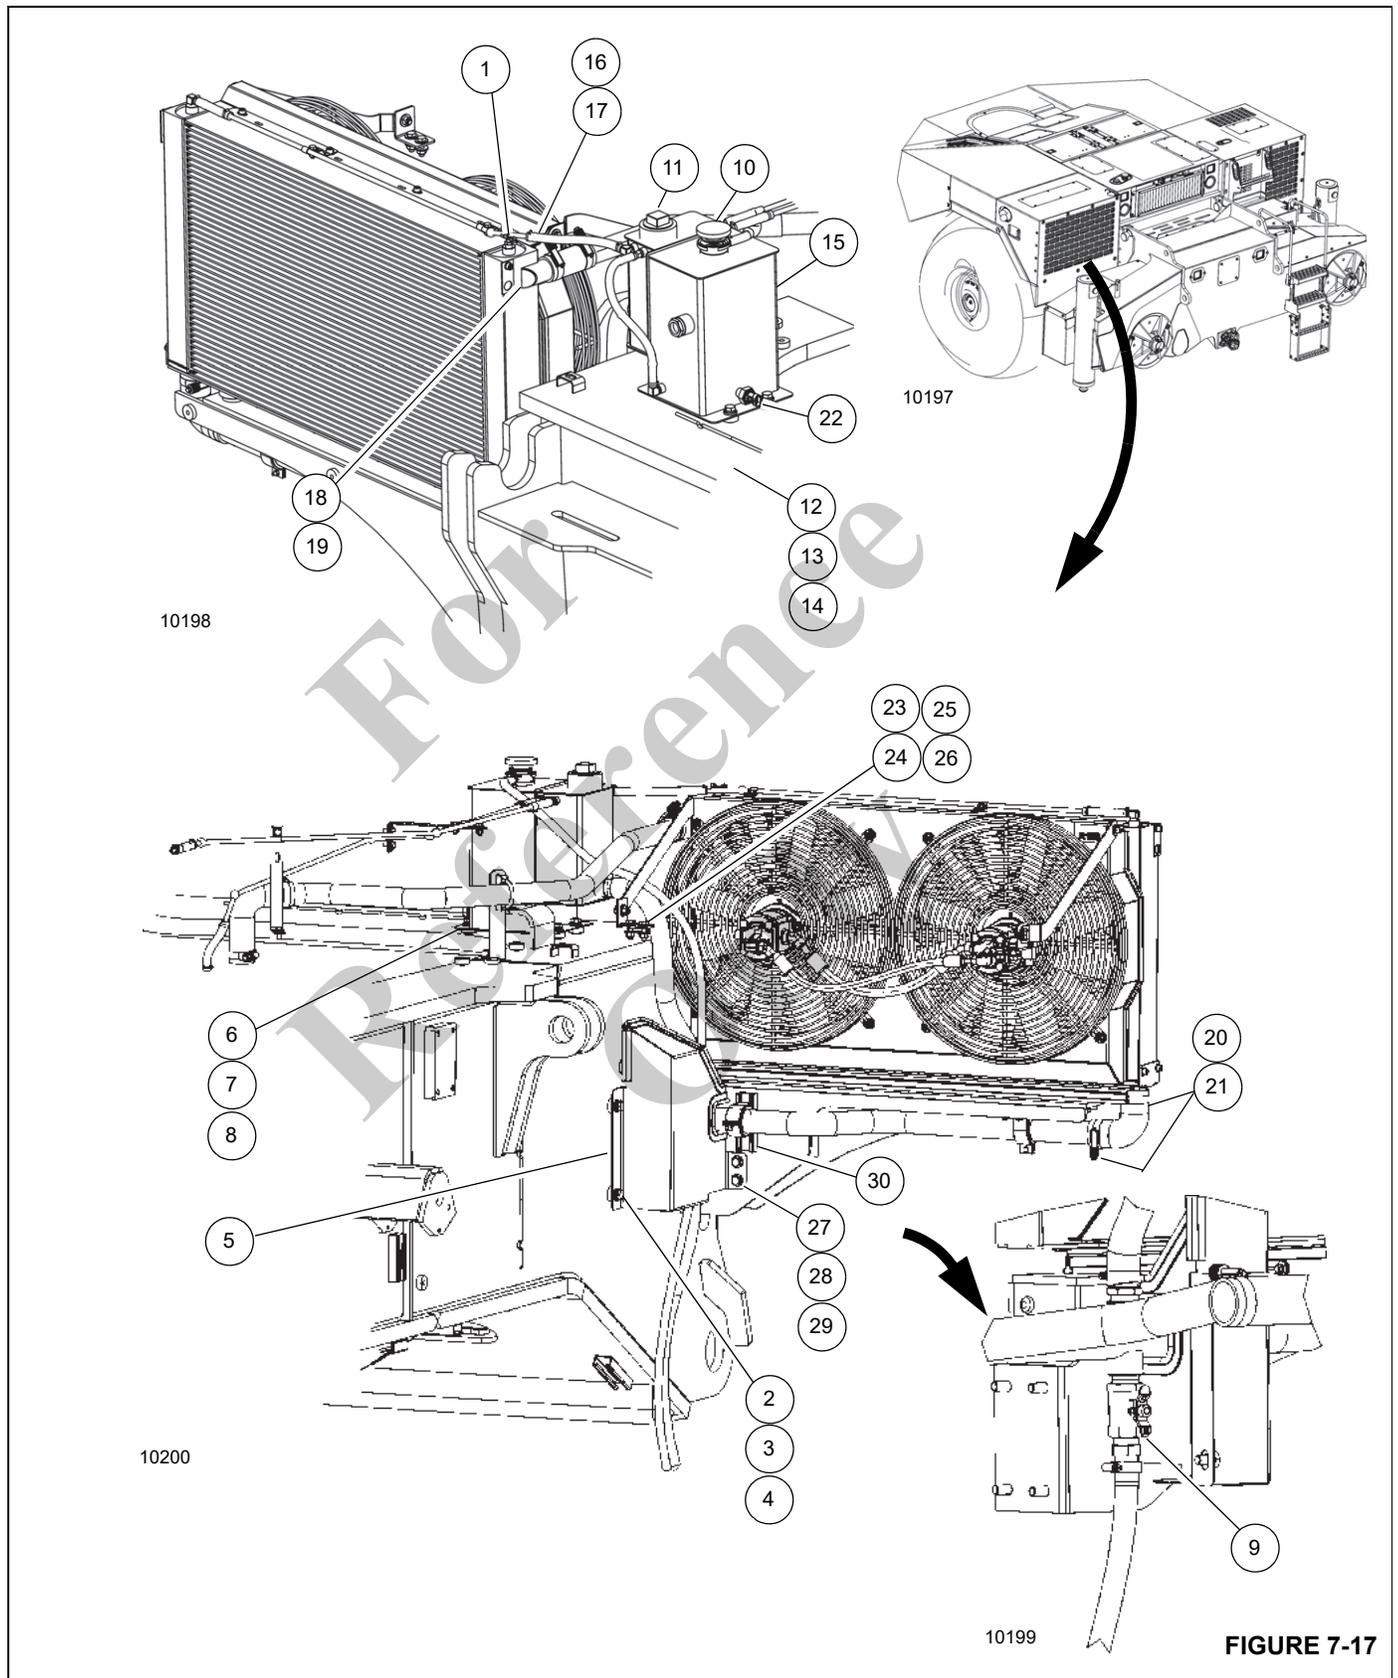

FIGURE 7-17
Table 7-1 Legend for Figure 7-17
3. Remove the capscrews and nuts holding the rear engine hood panel to the engine hood. This will gain access to the rear of the radiator (1, Figure 7-17) and the surge tank mounting hardware.
4. If necessary, remove capscrews (2), washers (3), lockwashers (4), and drain valve cover (5).
5. Loosen the radiator cap (11) and surge tank cap (10).
6. Open the drain valve (9) and drain the coolant into a suitable container. Dispose of the coolant in accordance with local and EPA regulations.
8. Remove the capscrews (12), washers (13), and lockwashers (14) holding the surge tank assembly (15) to the frame. Remove the surge tank assembly (15).
9. Remove the clamps (16) securing the hose (17) to the radiator.
10. Remove clamps (18) and hose (19) from radiator.
11. Remove the hose clamps(20) and hose (21) from radiator.
12. Remove capscrews (23), washers (24), lock nuts (25), and angle mounts (26).
13. If not already removed, remove capscrews (27), lockwashers (28), and washers from drain valve cover and radiator flange.
3. Attach hose to radiator flange (4) with clamp (5).
4. Connect the electrical harness to the coolant level sensor (22).
5. If necessary, attach drain valve cover to radiator flange with capscrews (27, Figure 7-17), lockwashers (28), and washers (29).
6. Install clamp (30) in bracket.
7. Secure the angle mounts (26, Figure 7-17) to the decking with capscrews (23), washers (24), and lock nuts (25).
8. Attach hose (21) to radiator with clamps (20). Torque clamps to 11.3 Nm (100 in-lb).
9. Attach hose (19) with clamps (18). Torque clamps to 11.3 Nm (100 in-lb).
10. Attach hose (17) to radiator with clamps (16).
11. Install surge tank assembly (15) with lockwashers (14), washers (13), and capscrews (12).
12. Make sure the drain valve (10) is closed.
2. Open the drain valve (9, Figure 7-17) and drain the coolant into a suitable container. Dispose of the coolant in accordance with local and EPA regulations.
1. Open the bleeder valve (1, Figure 7-17).